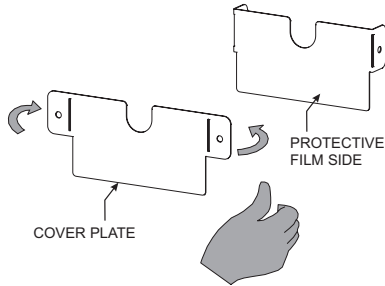

Figure 4
**For R3 Series Grill Heads:** Bend the tabs on the Post Cover Plate to 90° as shown in Figure 4. Two different size cover plates are included with the R3 Series Grill Heads. Choose the plate that will best fit your post.